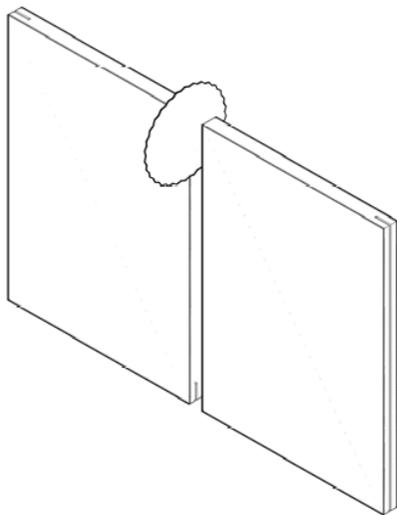

Figure 10
- a. In this case, cut Panel, and Caps to necessary width using a carbon tipped circular saw aligned with a straightedge for a guide (figure 10).